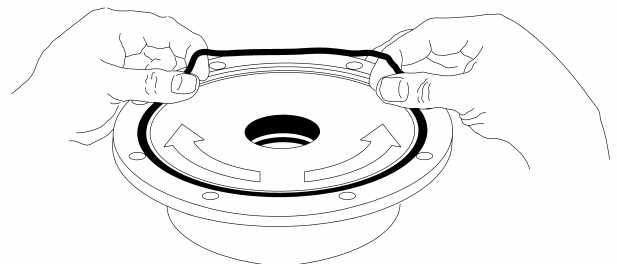

Figure 12 – Head O-ring Installation
- a. Apply a small amount of motor oil in the seal recess of the head (20).
8. Install a new head O-ring (72) in the groove on the inside face of the head (20). Lay the O-ring flat and start in on one side of the groove, stretching ahead with the fingers, as shown in Figure 12.